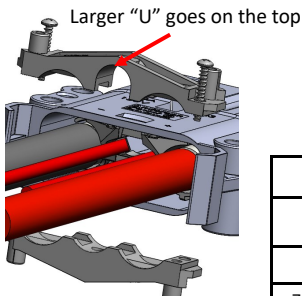

Figure 10
- a. Line up the top and bottom clamp with open pillars at the cable side of the housing (note the upper clamp has a larger "U" and should be on the side with polarity markings). (Figure 10)
- c. Hold the two clamps tight to the cable while tightening the screws. Auxiliary wires will pass through "U" and are not be grabbed by the clamp. Tighten per table below. (Figure 10)